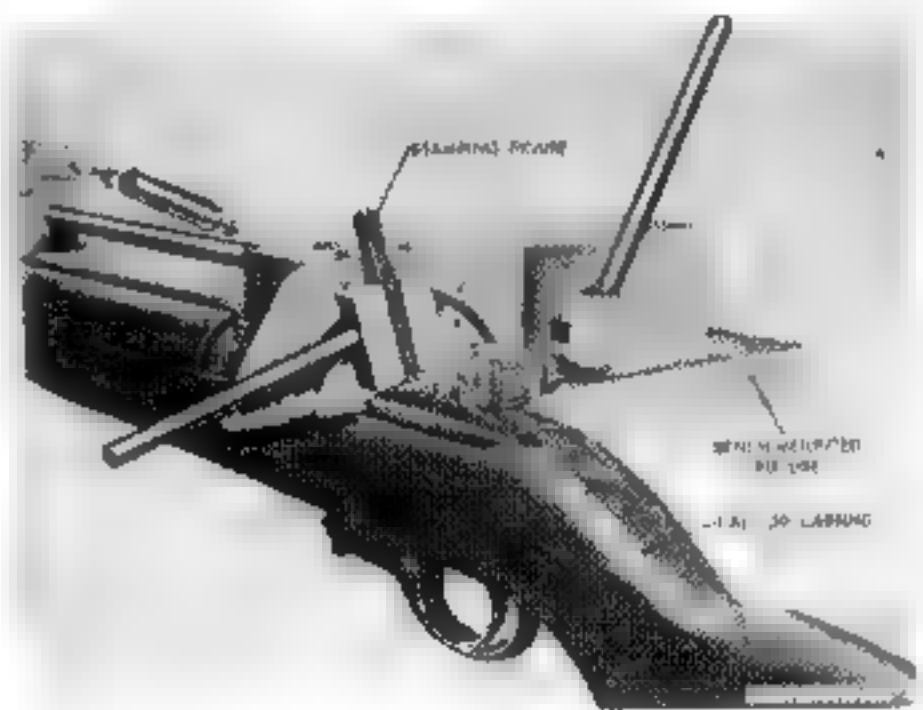

Figure 90. Bench-mounted stamping fixture with carbine and stamping figure in place.
3. Place a 3/32-inch stamping fixture (Fig. 90). Position and space the stamping fixture by adjusting the stamping guide. Strike the stamping fixture with one firm blow of the hammer to insure a neat and distinct impression. Repeat this procedure until all the digits of the serial number are transposed.